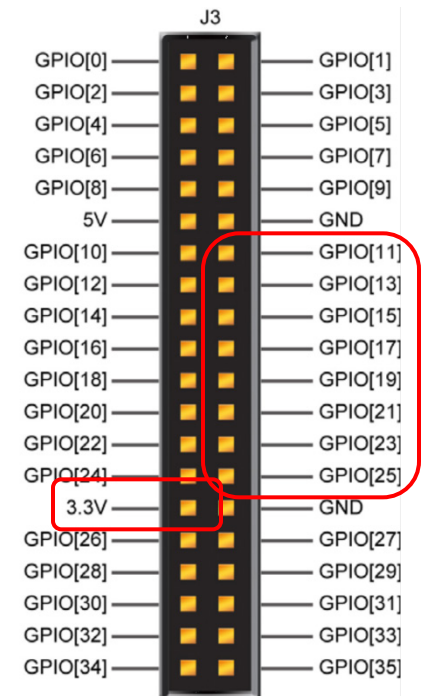

Figure 6. GPIO pinout.
3. Breadboard the circuit with the keypad hooked to odd-numbered GPIO pins 11 through 25 with pull-up resistors to 3.3 V on the rows, circled in figure 6. *Row[0] on the keypad should be connected to GPIO[25].*